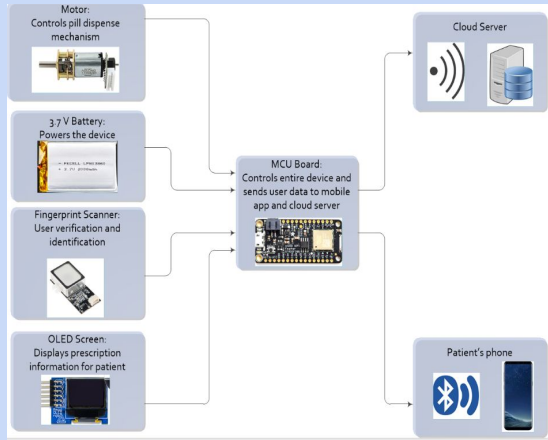

Figure 1: Electrical components Schematic.
- The electrical team choose the electrical components and drew the schematic (figure 1).